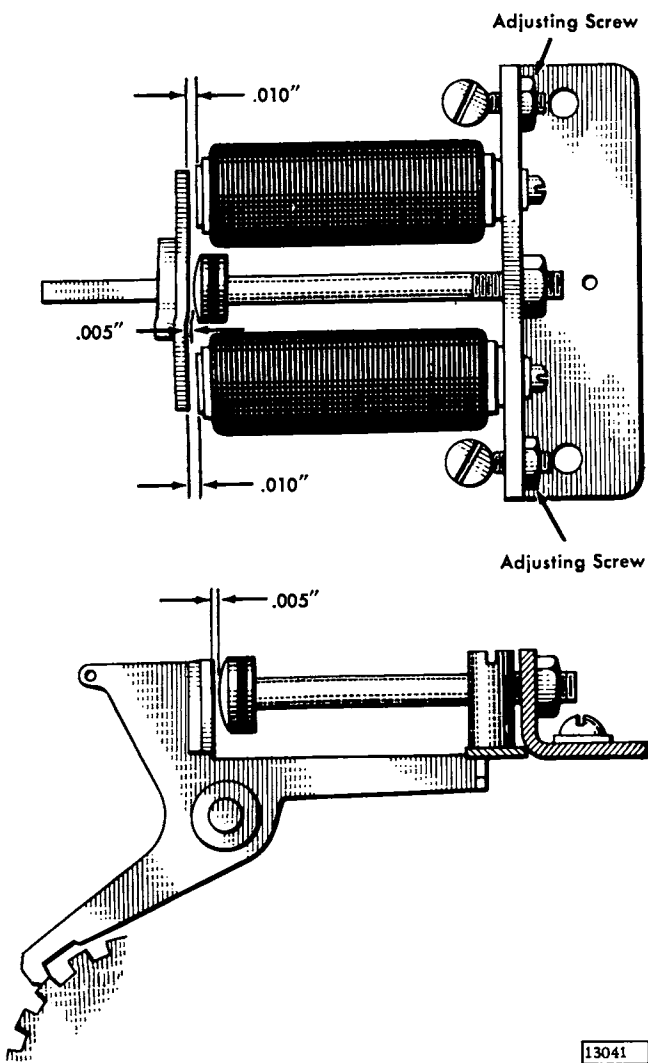

Figure 4-22. Clutch Magnet Armature
1. By means of the adjusting screws, position the clutch magnet cores square with the armature. With the detent resting on top of the detent wheel, there should be a clearance of 0.010" between the armature and cores (Figure 4-22).
2. Adjust the armature stop rod for a clearance of 0.005" between the armature and the stop rod with the detent on the top of the detent wheel. (Figure 4-22).